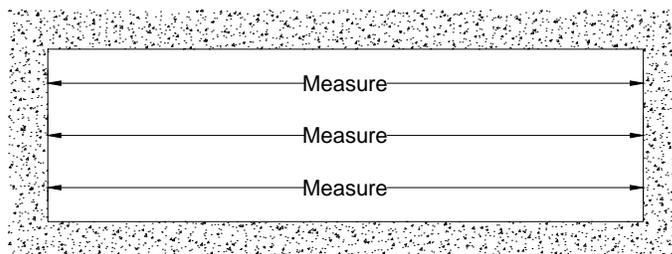

Fig. 30.2
- Measure the width of the opening (Rough Opening) at the top, middle and bottom. Select the smallest of these dimensions and subtract the left and right caulk joint width per approved shop drawing (1/2" minimum caulk joint starting bay jamb, 3/4" minimum at last bay jamb). **SEE Fig. 30.2.**